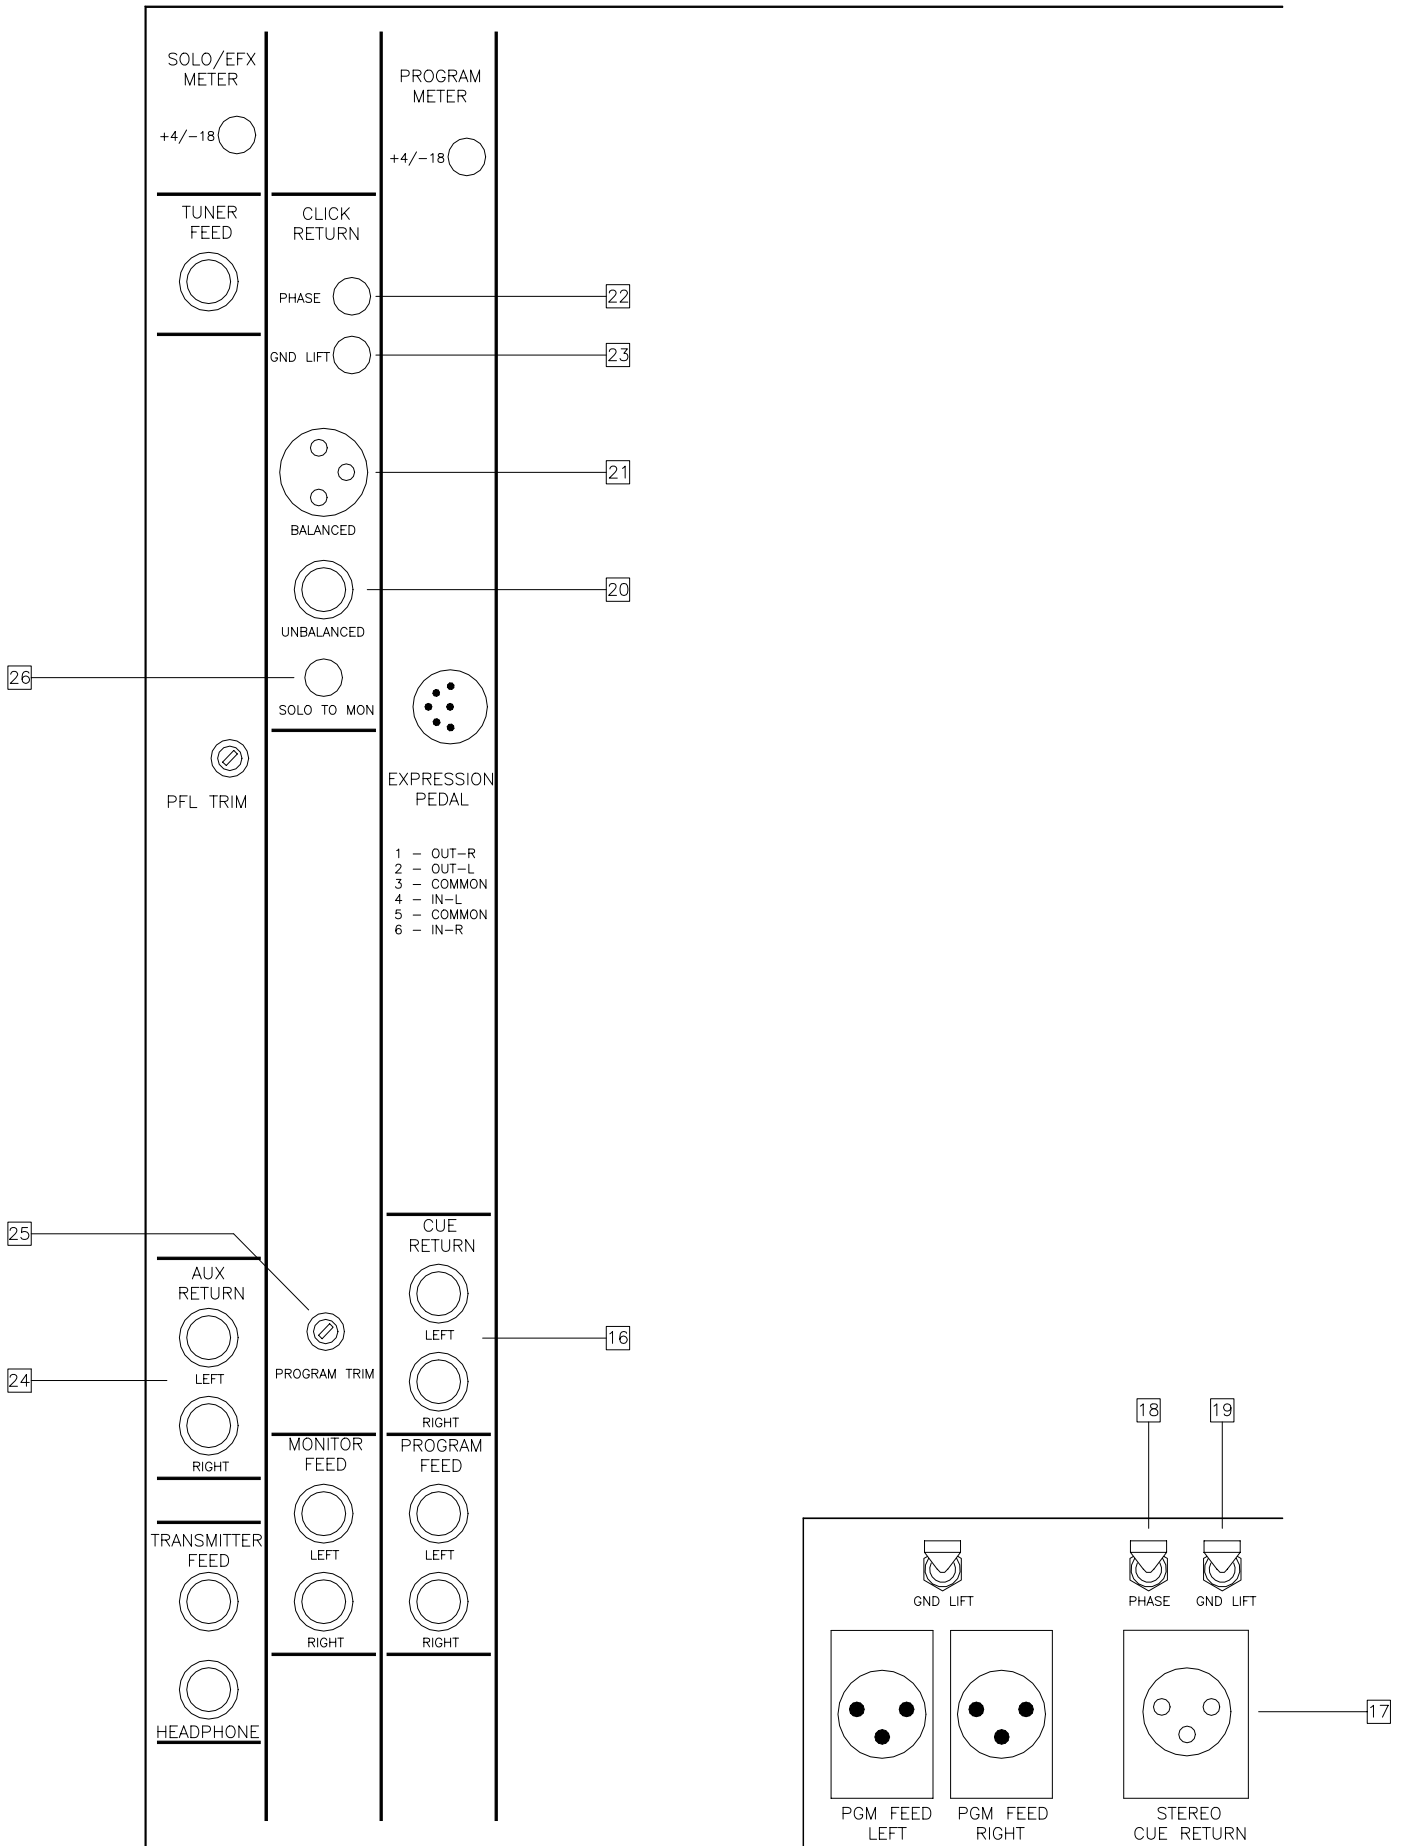

Figure 10. Cue, Click, Aux Return Connectors and Switches
Refer to Figure 10 for location of items 16 thru 26.